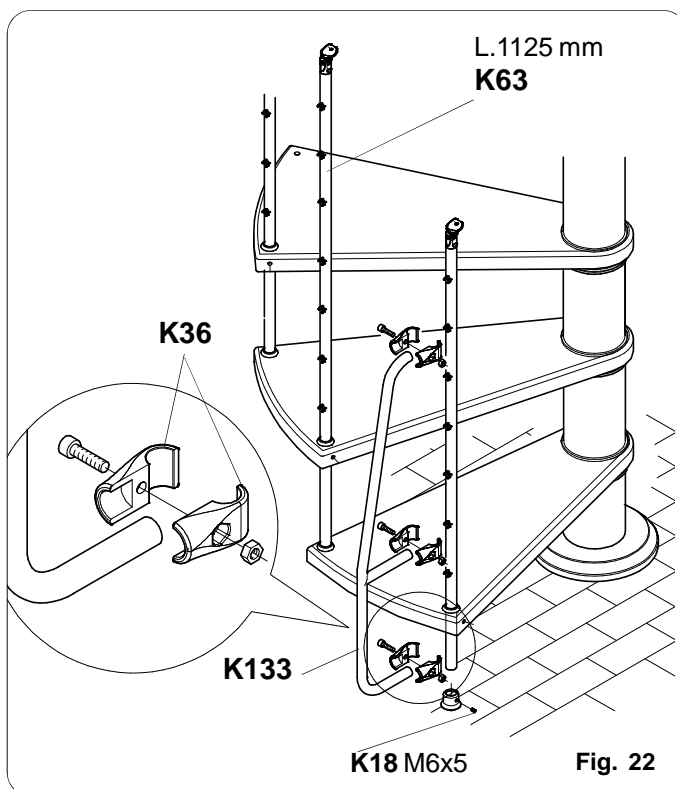

Fig. 22
- Before anchoring the column definitively in its respective seat previously marked on the ground, insert the **K133** stiffener by means of the **K36** clamps as shown in fig. 22.
Then anchor the column to the ground by means of the dedicated **M6x5** screw included in the **K18** kit, fig. 22